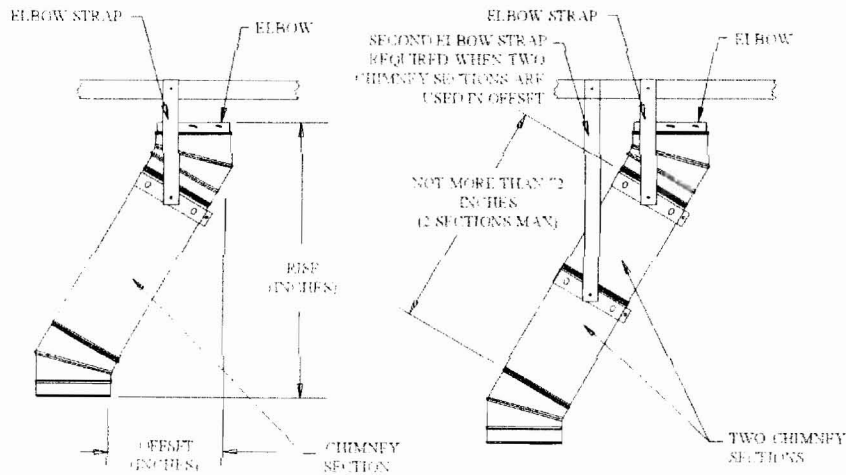

Fig 15
1. Attach Elbows: Attach Elbow to Chimney Section or other Elbow by twisting clockwise until they lock firmly. Attach one Elbow to the Chimney Section below, and align it for the offset. Elbows for DuraTech have a swivel feature that allow for 360° rotation at their base for ease of installation. Refer to Table 3 to determine the required offset length and attach an appropriate length (or lengths) of Chimney Section(s) above the Elbow. The maximum length of chimney pipe between elbows is not to exceed 72" (maximum of two chimney sections only). Attach the second Elbow above the Chimney Section to complete the offset (Fig 15).
2. Secure Offset: Place the Elbow Strap's band around the angled portion of the top Elbow, then tighten the nut and bolt until the clamp is firm. Wrap the Elbow Strap end over an adjacent joist or rafter and secure it with at least (2) 8-penny nails or (2) #8, 1-1/2 screws. Do not add more Chimney Sections until the Elbows are supported. Be sure that the chimney remains vertical. If there is more than one Chimney Section between the Elbows, install a second Elbow Strap around the joint of the two Chimney Sections (Fig 15)